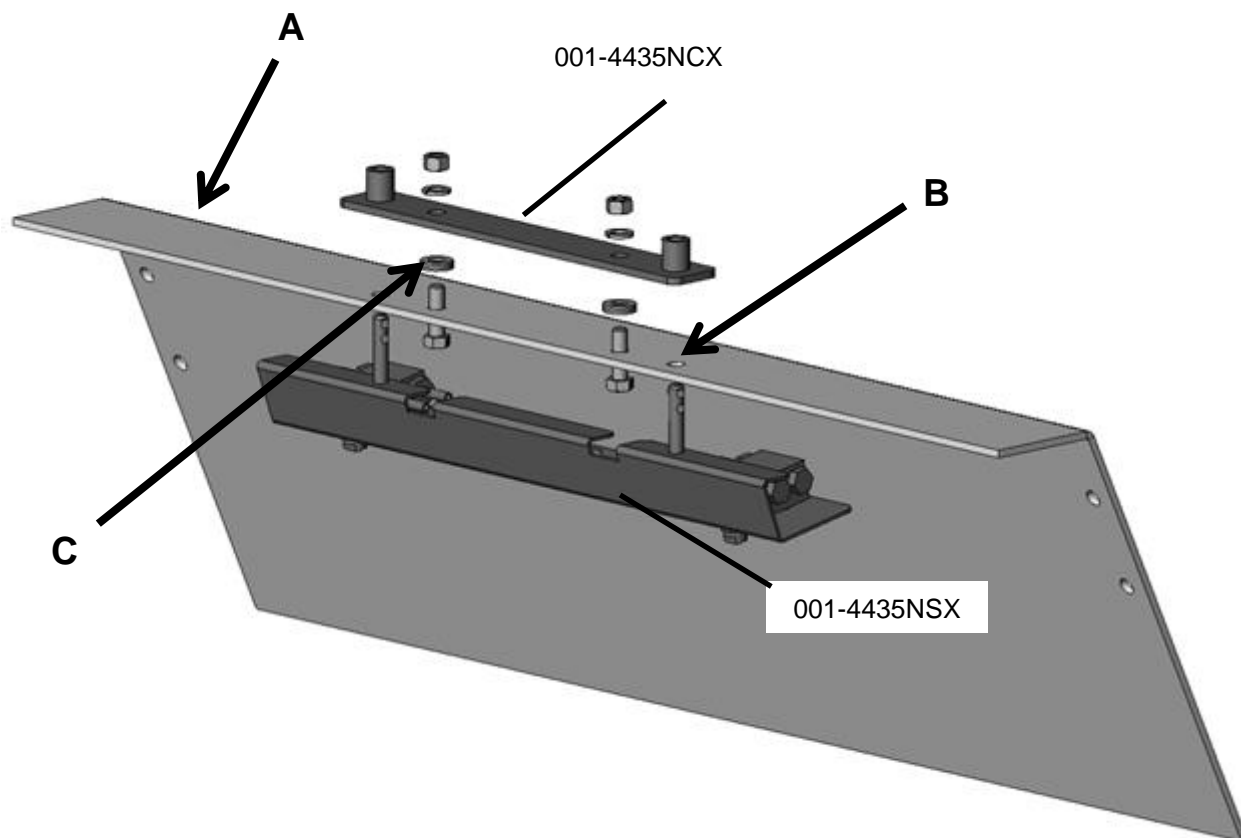

Figure 15
1. Locate the flat steel directly above the stuffer forks. Figure 15, Point A
3. Using the shield holder (001-4435NCX) as a template clamp the holder to the baler, mark the four holes and drill them to 7/16" diameter ( figure 15 point B).
4. Attach the shield holder (001-4435NCX) to the baler through the two center holes using the two 3/8" x 1-1/4" hex bolts, six flat washers, two lock washers, and two hex nuts. **Six** washers (three per side) may need to go between the baler and the spray shield holder (figure 15 point C).